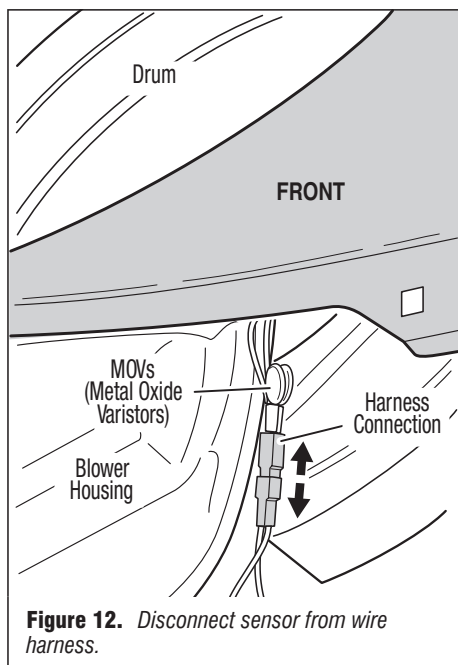

Figure 12. Disconnect sensor from wire harness.
4. Access the moisture sensor wires by removing the toe panel. See Removing the Toe Panel, page 9. Disconnect the sensor wires from the harness. See figure 12.
6. Access the moisture sensor by removing the toe panel. See Removing the Toe Panel, page 9. Disconnect the sensor from the wire harness. See figure 12.